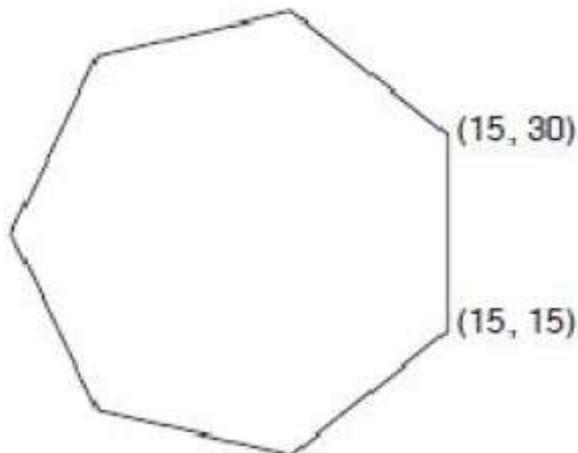

Fig 4.3
2. Using edge option, specifying the size of the edge and orientation: (Fig. 4.3)